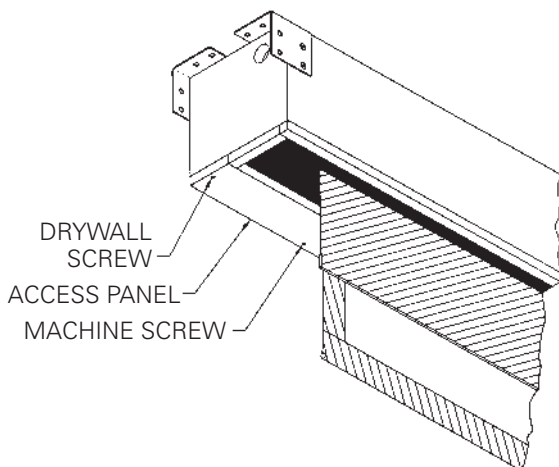

FIGURE 1
3. Detach access panel by removing screws (Fig. 1).